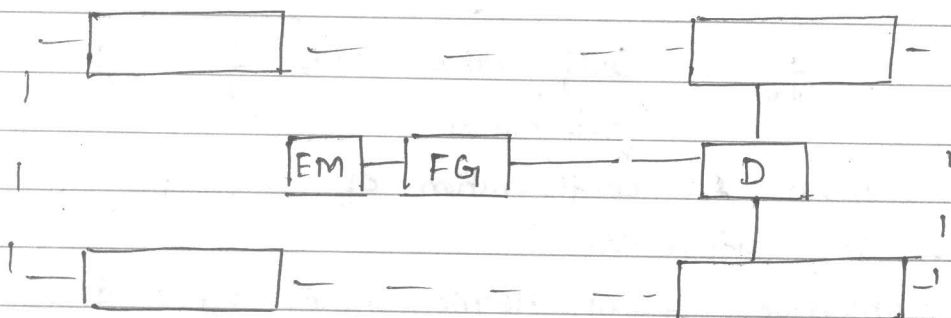

fig 1 (b) Configuration without gear box & clutch.
- In fig 1(b) a single EM configuration without the gearbox and clutch is shown.